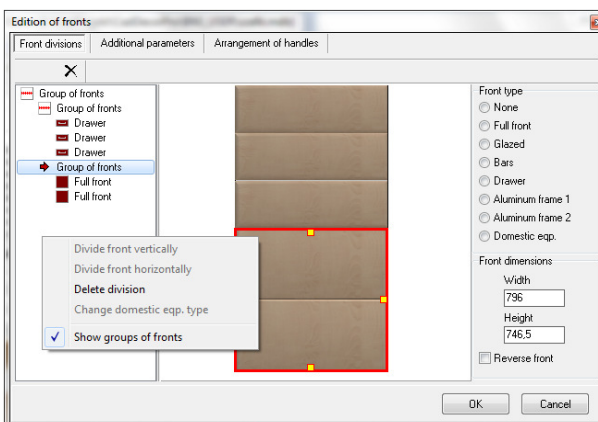
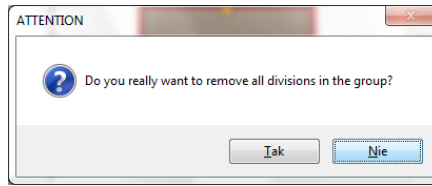

Fig. 187 – deleting front division
Fig. 188 – request for confirmation that the front division is to be deleted
- to delete a division mark a particular group of fronts on the list, right-click and select the **Delete division** option (Fig. 187), and then click **Yes** (Fig. 188).